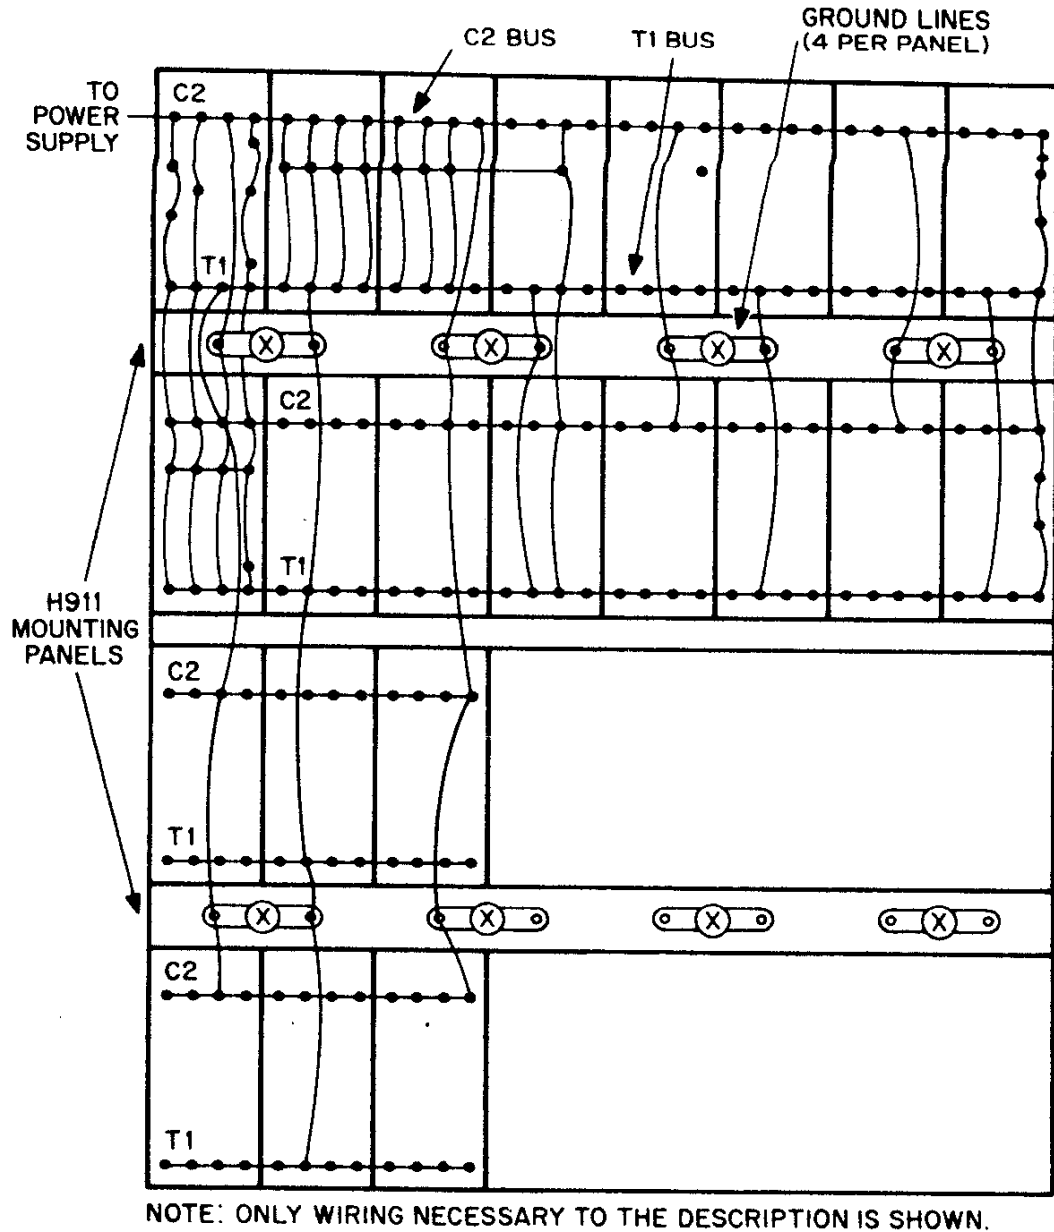

Figure 10-15 Mounting Panel Wiring
3. Adequate grounding must be provided. The user should not be concerned with the question of ground loops. At the frequencies dealt with in digital logic, many parallel paths are of utmost importance. There must be ground continuity between cabinets, and between the logic assembly and any equipment with which the logic connects. Continuity between mounting panels and between ground pins on the various connector blocks is achieved when the following instructions have been carried out. These instructions are illustrated in Figure 10-15.